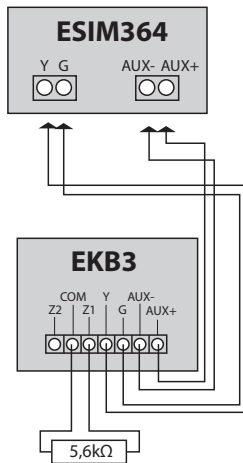

Fig. No. 4
4. Wire up keypad terminals to ELDES alarm system respectively – **AUX+** to **AUX+**, **AUX-** to **AUX-**, **Y** to **Y**, **G** to **G** (see Fig. No. 4).
5. Connect a sensor and the resistor across **Z1** and **COM** terminals in accordance with zone connection Type 1 or Type 2 (see alarm system installation manual). As keypad zone Z1 is disabled by default, it can be enabled by SMS, *ELDES Configuration Tool*, EKB2, EKB3 and EKB3W keypad. Z2 terminal is permanently inactive. Keypad zone Z1 must be enabled and resistor connected even if the tamper button alone is required (see Fig. No. 4).